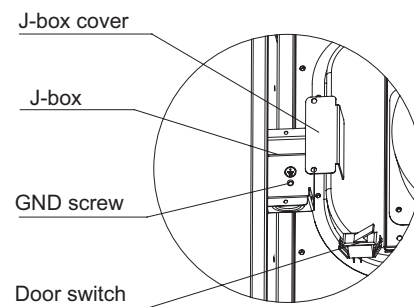
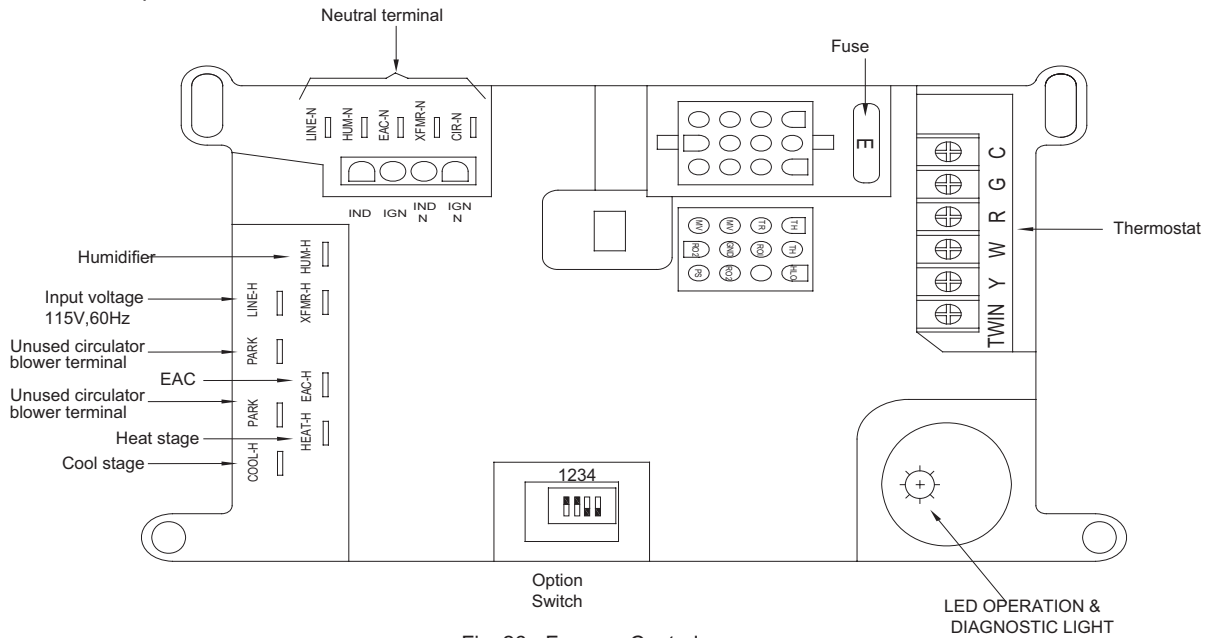
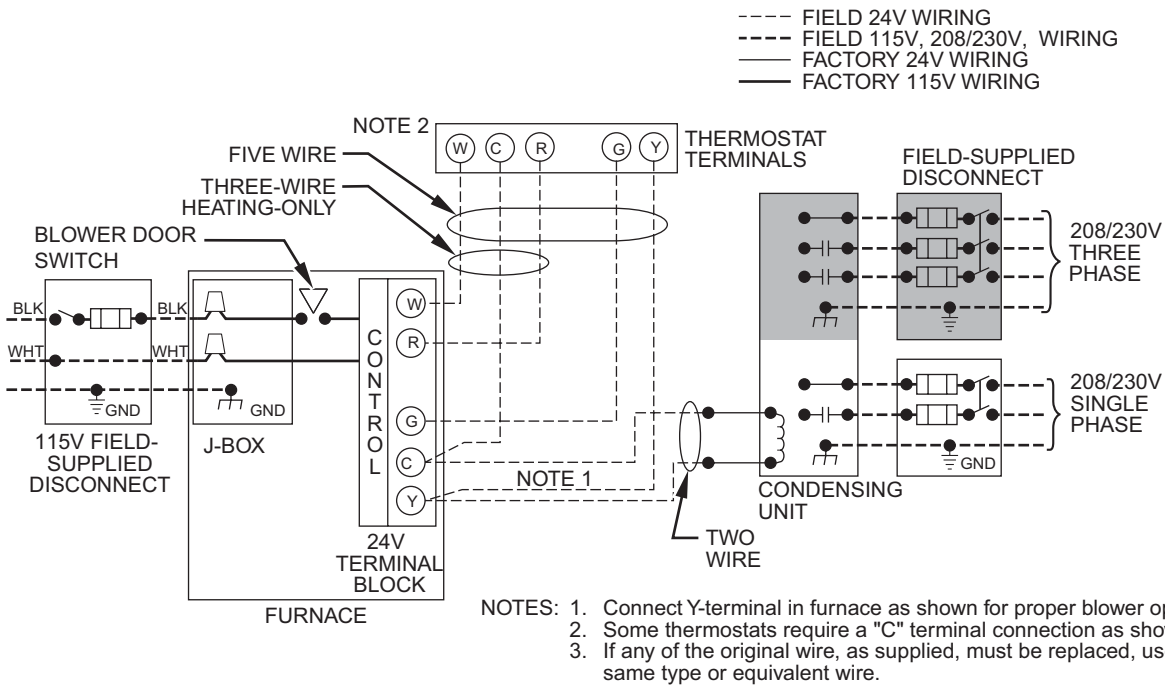

Fig. 25 - J-box
Fig. 26 - Furnace Control
Fig.27 - Heating and Cooling Application Wiring Diagram with I-Stage Thermostat
Field-Supplied Electrical Box on Furnace J-Box Bracket See Fig. 25.
5. Connect line voltage leads as shown in Fig. 27.
Electrical Box on Furnace Casing Side. See Fig. 25 and Fig 27.
4. Remove and save two screws holding J-Box. (See Fig. 25.)
12. Complete electrical box wiring and installation. Connect line voltage leads as shown in Fig. 27. Use best practices (NEC in U.S. and CSA C22.1 in Canada) for wire bushings, strain relief, etc.
Make field 24V connections at the 24V terminal strip. (See Fig. 26.) Connect terminal Y/Y2 as shown in Fig. 25 for proper cooling operation. Use only AWG No. 18, color-coded, copper thermostat wire. The 24V circuit contains an automotive-type, 3-amp. fuse located on the control. Any direct shorts during installation, service, or maintenance could cause this fuse to blow. If fuse replacement is required, use ONLY a 3-amp. fuse of identical size.
Connect an accessory Electronic Air Cleaner (if used) using 1/4-in female quick connect terminals to the two male 1/4-in quick-connect terminals on the control board marked EAC-H and EAC-M. The terminals are rated for 115V AC, 1.0 amps maximum and are energized during blower motor operation. (See Fig. 26.)
Connect an accessory 115V AC, 0.5 amp. maximum humidifier (if used) to the 1/4-in male quick-connect HUM-H terminal and HUM-N terminal on the control board. The HUM terminal is energized when gas valve relay (GVR) is energized. (See Fig. 26.)
1. Maintain 115V wiring and ground. Improper polarity will result in rapid flashing LED and no furnace operation. (See Fig. 27)
2. Make thermostat wire connections at the 24-V terminal block on the furnace control. Failure to make proper connections will result in improper operation. (See Fig. 27.)
(See Fig. 27 for thermostat connections.)
(See Fig. 27 for thermostat connections)